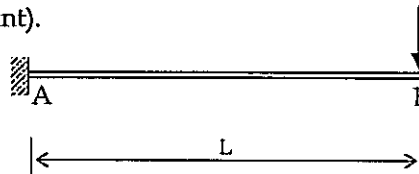

Fig. 1(b)
- b.) Using Moment Area Method, find the vertical deflection end B of the cantilever beam AB shown in Fig. 1(b). ( $EI = \text{constant}$ ).